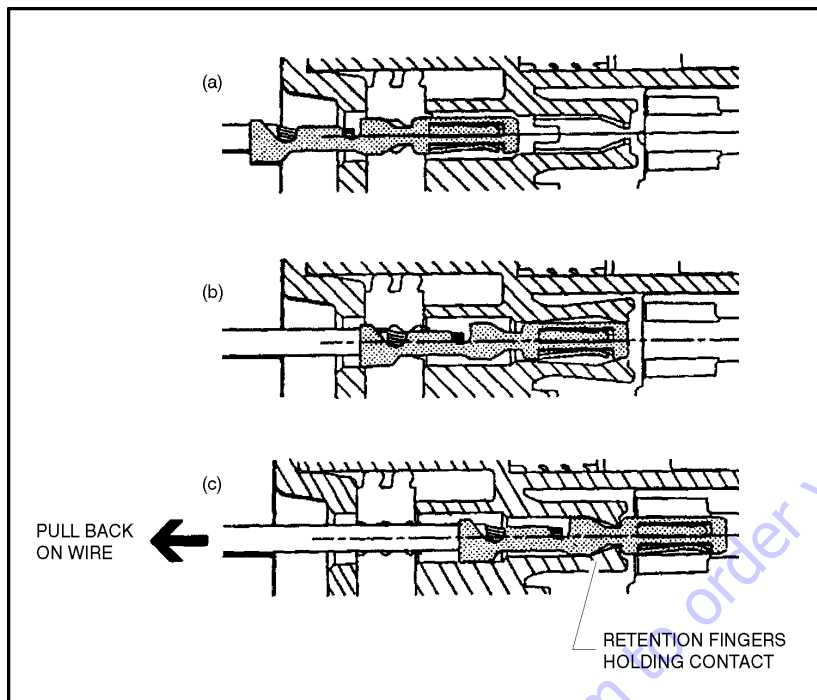

Figure 6-7. Connector Assembly Figure 2
1. To insert a contact, push it straight into the appropriate circuit cavity as far as it will go (See Figure 6-7.)
2. Pull back on the contact wire with a force of 1 or 2 lb to be sure the retention fingers are holding the contact (See Figure 6-7.)